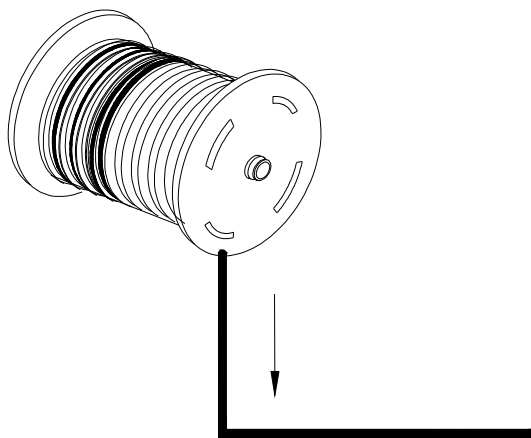

Fig. 2-2
- 4) Hoisting up and enwind the wire rope onto the drum 4-10 circles tightly (See Fig. 2-2).